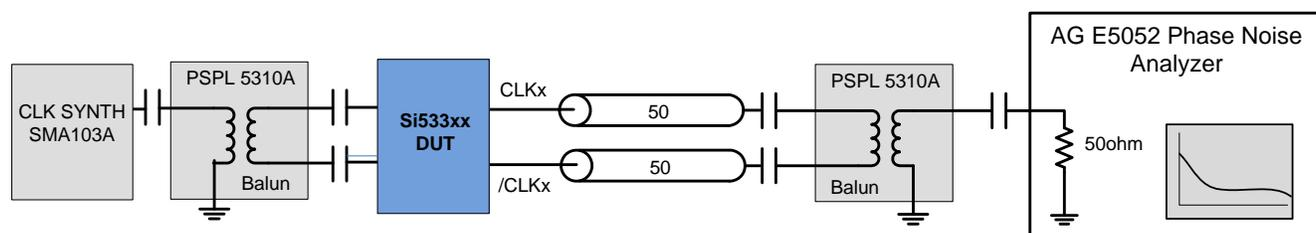

Figure 1. Differential Measurement Method Using a Balun
3. Measured differentially using a balun at the phase noise analyzer input. See Figure 1.
3. Measured differentially using a balun at the phase noise analyzer input (see Figure 1).
Total Jitter (Diff'l): Combined source and clock buffer phase noise measured as a differential output to the phase noise analyzer and integrated from 12 kHz to 20 MHz. The differential measurement as shown in each figure is made using a balun. See Figure 1 on page 7.